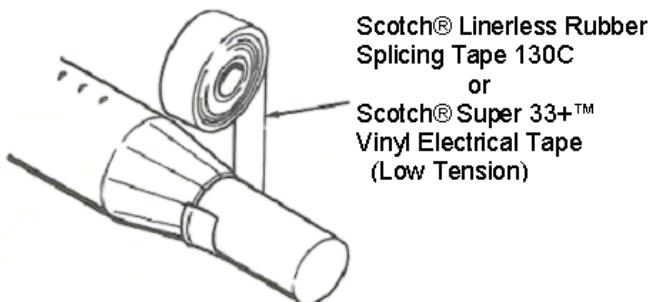

Figure 13
5. Bundle mold's notched ends evenly around cable, maintaining cable centering. Starting 1/2" (12.7 mm) on cable jacket, apply 1 half-lapped layer of Scotch® Super 33+™ Vinyl Electrical Tape or Scotch® Linerless Rubber Splicing Tape 130C over notches. (Figure 13)